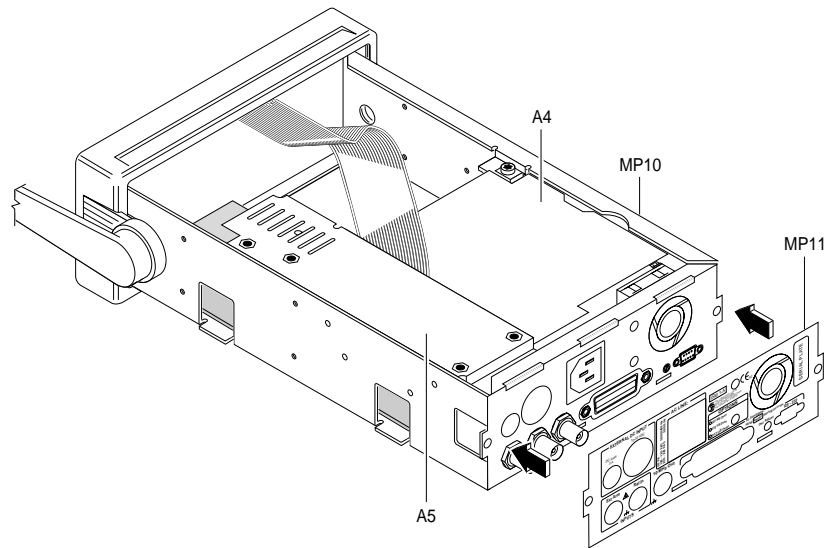

Figure 4-1D. DC Power Input Assembly Retrofitting
- 11 To install the rear label (MP11), remove the protective seal from the back of it and press into place making sure to properly align the label with the holes in the rear of chassis as shown in Figure 4-1D.